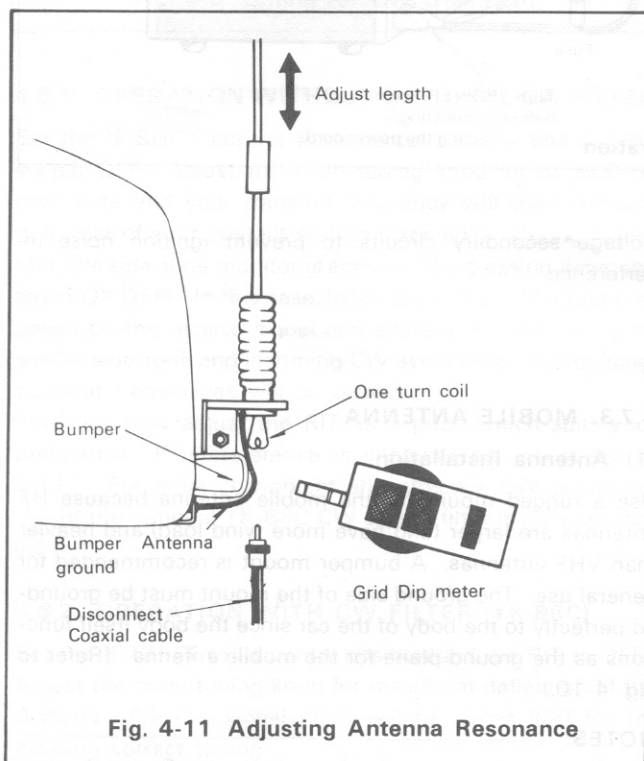

Fig. 4-11 Adjusting Antenna Resonance
### (3) Antenna Adjustment (Fig. 4-11)
The antenna to be used should first be checked with a dip meter to insure that it is designed for your operating band, then the impedance matching should be checked with an SWR meter. (See Fig. 4-11)